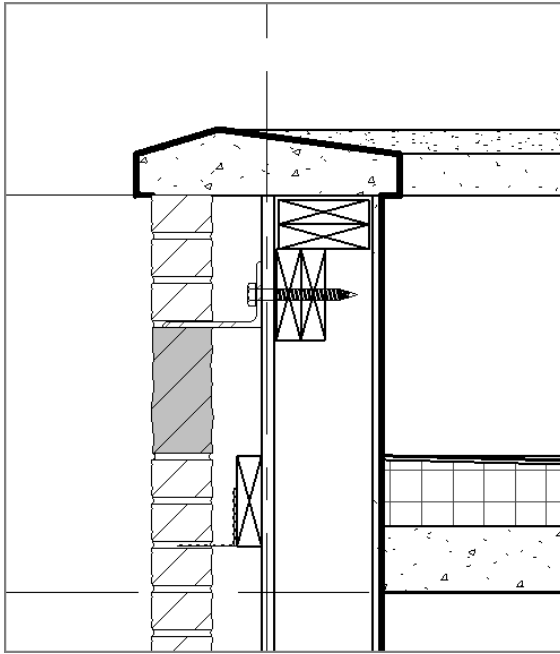

FIGURE 12.40: Copy the blocking as shown.
7. Copy and rotate the blocking to the positions shown in Figure 12.40 to allow for support of the lag bolt.
9. Compare your detail to Figure 12.40.